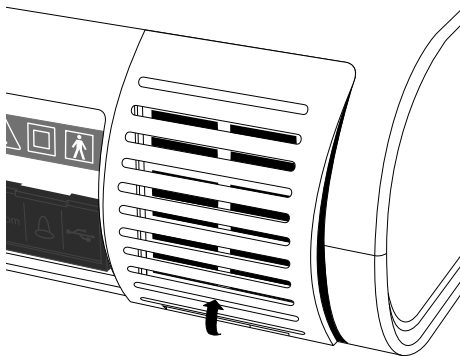

Fig. 46: Pulling out the air inlet cover
1. Pull the cover of the air inlet from the device, as shown in Fig. 46.